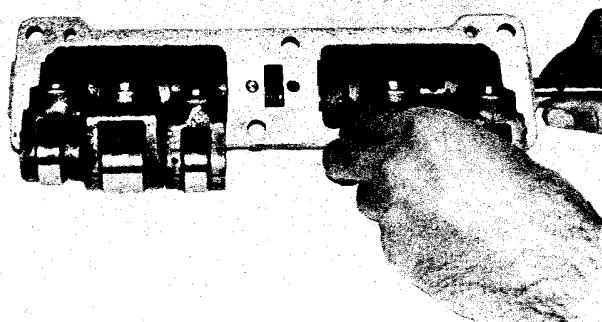

Fig. 4-15, (N10407). Assembling cam follower assembly
3. Assemble levers and shafts in housing. Make sure injector lever is in center position of each assembly. Fig. 4-15.
Note: Cam rocker levers must be installed in housing with push tube sockets and housing dowel pin holes topside. See Fig. 4-15.